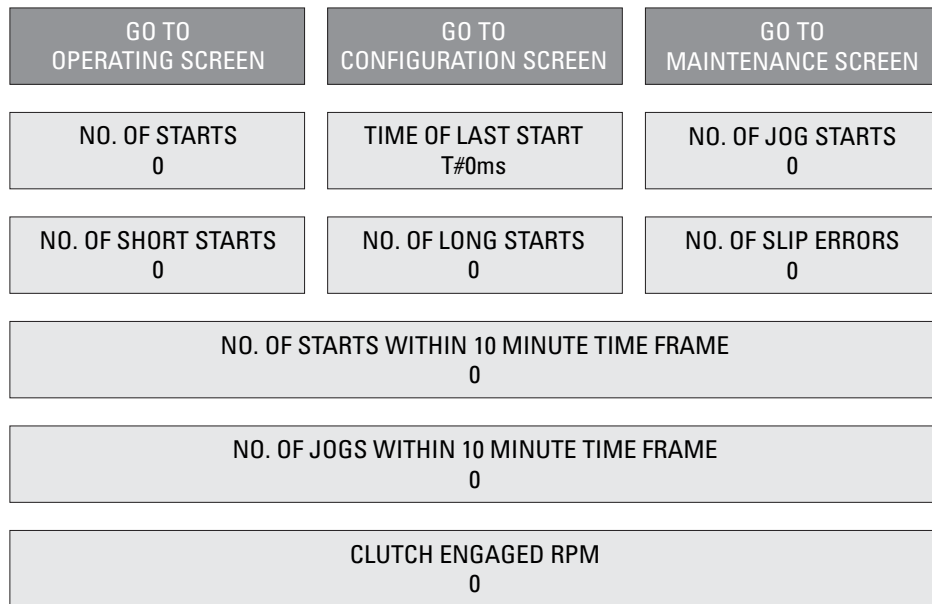

Figure 7
4.2.3 When the MILL RUN LOCAL or MILL JOG pushbutton is pressed, the mill run indicating light will flash until the prestart delay is over. When the prestart delay is over, the clutch will start to engage and the indicating light will stay on solid. The background of the MILL RUN LOCAL and MILL JOG pushbuttons on the operating screen of the HMI will flash according to the number of starts and jogs that have been performed or attempted in a 10 minute time frame. This is to let the user know if they are about to reach the maximum allowable start/jog limit. The number of starts and jogs that have been accumulated in the 10 minute time frame can also be seen on the history screen of the HMI. Refer to Figure 7 for the layout of the history screen of the HMI and the information available. Also refer to section 3.1.1, item (g) for additional description of the cool down timer
- 5.6.1 Various operating and historical information is available on the history screen of the HMI. Refer to Figure 7 for the layout of the history screen and the information available. The number of starts, number of jog starts, number of short starts, number of long starts and number of slip errors is retained data. This data will be retained through a reboot. The other data on the history screen is not retained.